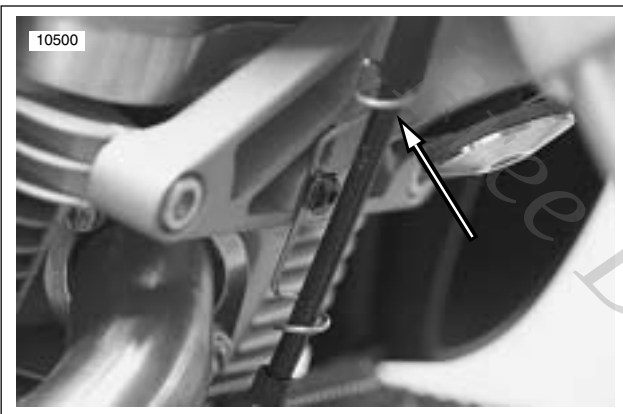

Figure 2-85. Clutch Cable Wire Form
2. See Figure 2-85. Remove clutch cable wire form.
4. Tighten front isolator bolt (6) to 49-51 ft-lbs (66-69 Nm).
5. See Figure 2-85. Install clutch cable wire form. Tighten fastener to 12-36 **in-lbs** (1-4 Nm).